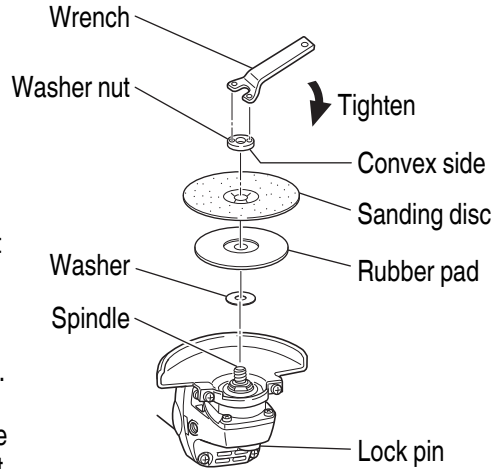

Fig. 3
1. Mounting the 100mm Sanding Disc. (see Fig. 3)
- (1) Mount the washer, rubber pad and sanding disc onto the spindle.
- (2) Screw from the washer nut onto the spindle.
- (3) As shown in Fig. 3, push in the lock pin to prevent rotation of the spindle. Then, secure the sanding disc by tightening the wheel nut with the wrench.